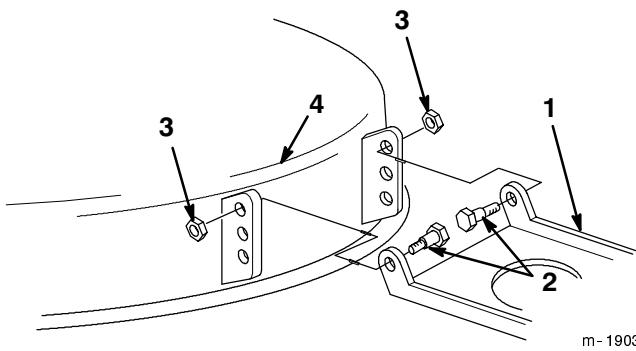

Figure 53
- If the 1/4" to 5/8" (6.350 mm to 15.875 mm) front slope cannot be achieved by rotating the slope adjusting nut, move the mower pivot mount at the mower (Fig. 53).
- Remove the shoulder bolts and lock nuts from the mower (Fig. 53).
- Lower the mower pivot one hole and install the shoulder bolts and lock nuts (Fig. 53).